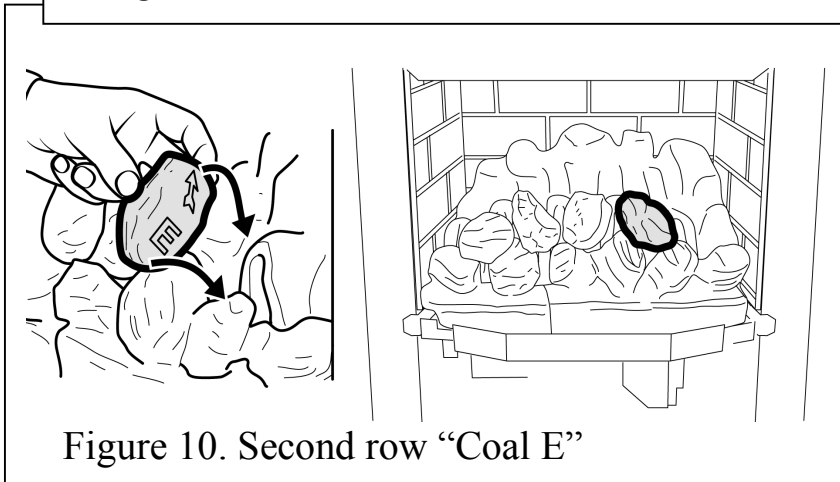

Figure 10. Second row "Coal E"
12. Hold coal 'E' upright with the arrow pointing to the top. Locate coal 'E' as shown in figure 10.